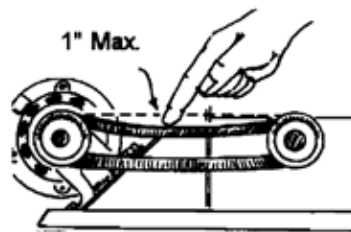

Fig. 3
- Install belt and adjust motor to obtain correct belt tension. Do not overtighten the belt as this will lead to excessive noise and premature bearing wear. The belt should not deflect more than 1". (Fig. 3)